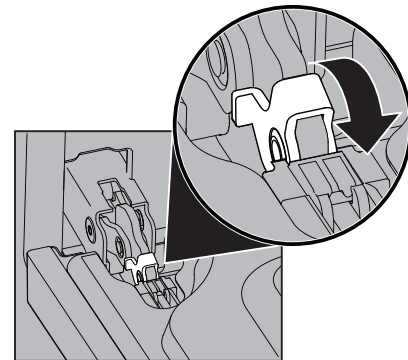

Figure 18: Door hinge lock
4. Push the door hinge locks up toward and into the oven frame on both left and right oven door hinges to the locked position (Figure 18).